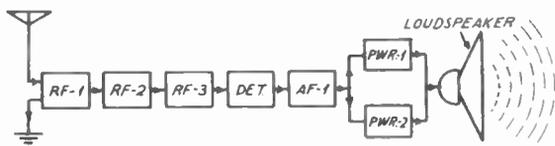

FIG. 1. Block diagram of signal circuits of a T.R.F. receiver.
*The Circuit Disturbance Test of T.R.F. Receivers.*—In Fig. 1 I have drawn a block diagram of the signal circuits in a typical T.R.F. set. The radio signal feeds into the first R.F. stage and then passes through successive stages to the loudspeaker. If